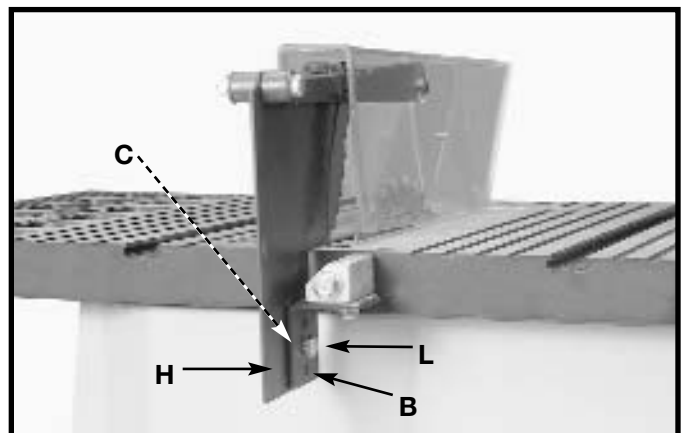
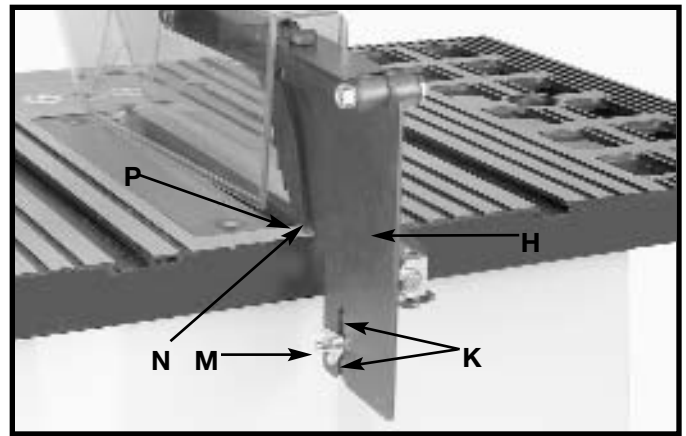

Fig. 14
Fig. 15
6. Attach the splitter (H) Fig. 14 to the splitter support bracket (B). Place a 1/4" external tooth lockwasher and an M6.4 flat washer on an M6x1x20mm hex head screw (L).
7. Insert the screw (L) Fig. 14 through the splitter support bracket (C) and the splitter (H). Place an M6.4 flat washer and a 1/4" external tooth lockwasher on the screw (L). Thread an M6x1 wing nut (M) Fig. 15 on the screw (L) Fig. 15.
NOTE: Before tightening the wing nut (M) Fig. 15, make certain a gap of at least 1/8" is between the bottom edge of the splitter (N) and the top surface of the table (P) and that the protrusions (K) are inside the slot of the splitter assembly (H).